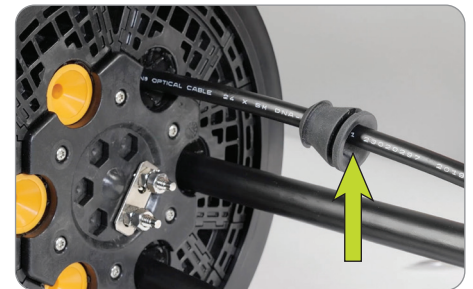

Figure 24
1. Open bushing and install over small diameter cable with the taper toward the base. (Figure 24)